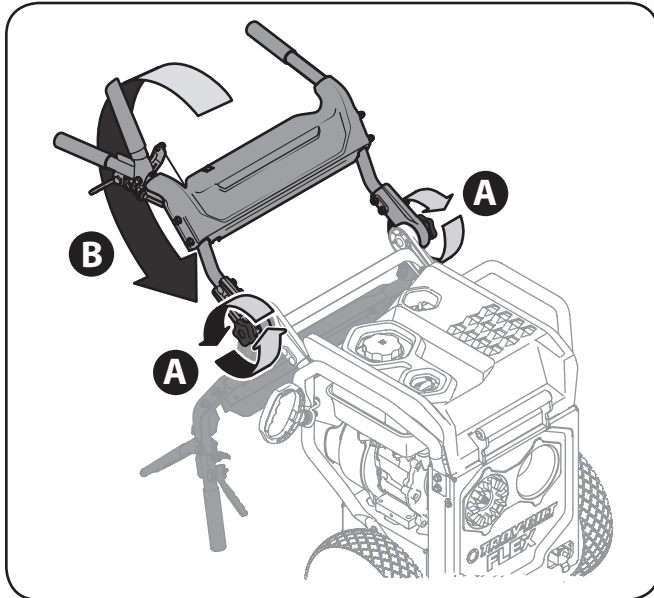

Figure 3-4
1. Loosen the star knobs (A) as shown in Figure 3-4, and pivot the upper handle assembly downwards (B) until it reaches the bottom of its pivot motion.